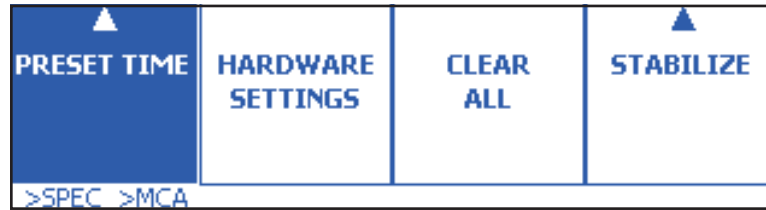

Figure 33 Preset Time Menu
- In the next menu level, select Preset Time (Figure 33).